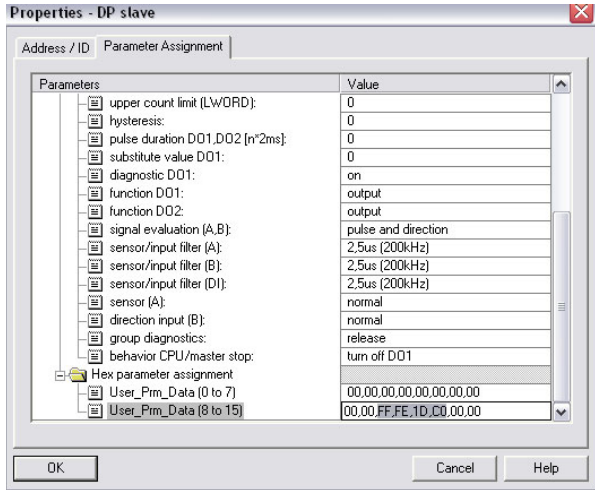

Figure 26: Entering the lower count limit as a High and Low word
- The calculated values are entered in the appropriate entry lines of the parameter mask for the XI/ON counter module (count mode) (→ Figure 26).